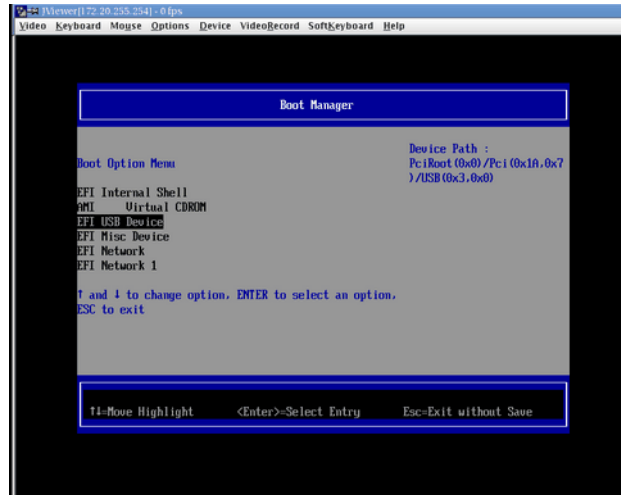

Figure 3-19 Boot Manager Screen
5. From the **Boot Manager** screen, select **EFI USB Device**, as shown in Figure 3-19 on page 59.